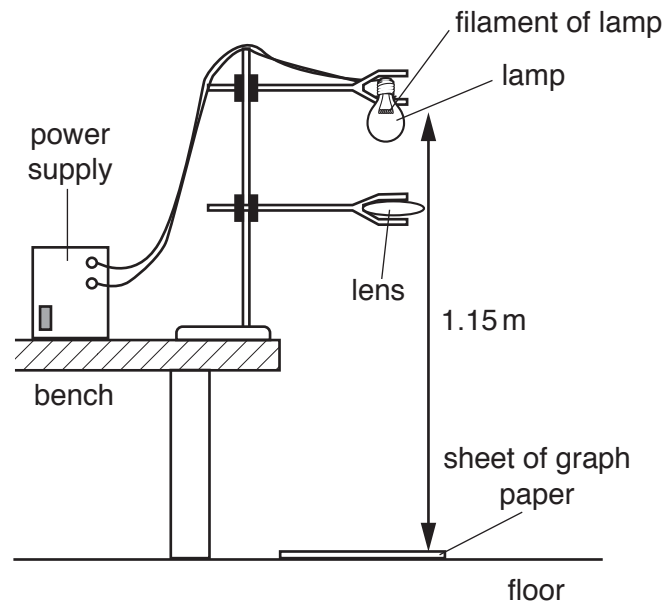

Fig. 2.2
2. Small torch lamp of approximate diameter 1 cm, 2.5 V, 250 mA, filament indicator lamp, clear, e.g. RS 106-313. It must be placed in a small holder e.g. RS 171-2503 so that it can be gripped by the second clamp. This clamp should be fastened to the stand so that the filament of the lamp is 1.15 m above the graph paper as shown in Fig. 2.2. With the lamp at this height it must be possible to move the lens up and down between 0 and 25 cm from the lamp. If this is not possible due to the height of the bench, the graph paper can be supported above the floor whilst keeping a distance of 1.15 m between the lamp and the graph paper.